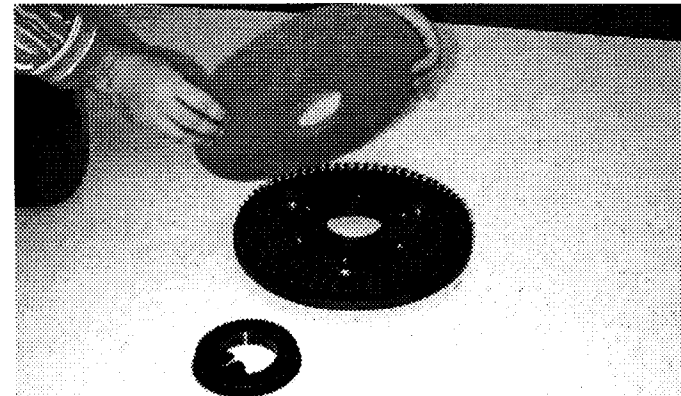

FIG. 7
- (For Pad Installation)** Attach pads to pad drivers before connecting drivers to motor hub. To attach pad to pad driver, remove plastic centerlock ring from pad driver. Position pad on driver and replace centerlock ring. (Figure 7)